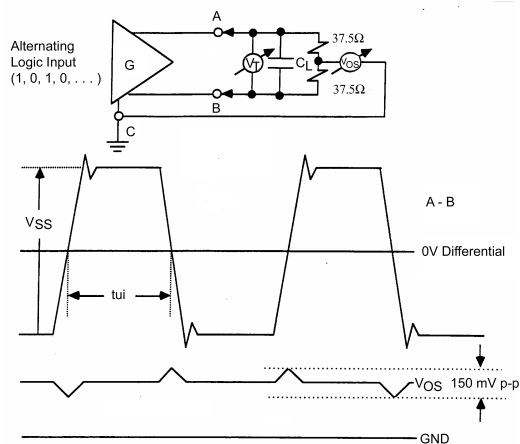

FIGURE 2. Dynamic V_{OS} Test Circuit and Waveforms
2. When the true and complement LVDS outputs (having a 5 pF capacitor attached between outputs) are connected with 37.5Ω resistors each to common point, then the common point does not vary by more than 150 mV under all process, temperature and voltage conditions when the outputs switch either from LOW-to-HIGH or from HIGH-to-LOW (see Figure 2).